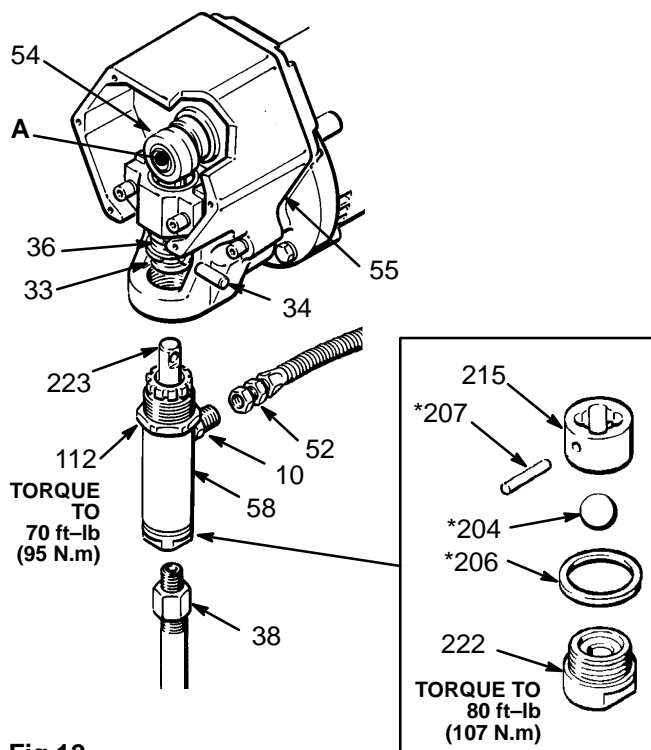

Fig 12
Removing the Pump. See Fig 12.
Reinstalling the Pump. See Fig 12.
Be sure the retaining spring (33) is firmly and completely in the groove of the connecting rod to prevent the pin (34) from working loose due to vibration. See Fig 12.
1. Remove and disassemble the intake valve (222). If no further service is needed, reassemble the valve, using a new gasket (206). Torque to 80 ft-lb (107 N.m). See Fig 12.
2. Remove the packing nut (221) and plug (201).
3. Tap the piston rod (223) down with a plastic mallet. Pull the rod out the bottom of the cylinder (216).
4. Remove the packings and glands from the throat of the cylinder (216).
5. Clamp the flats of the piston rod (223) in a vise. Unscrew the retaining nut (214). Unscrew the piston valve (224) from the rod. Remove all parts from the piston.
1. Disconnect the hose (52) at the displacement pump. *See Fig 12.*